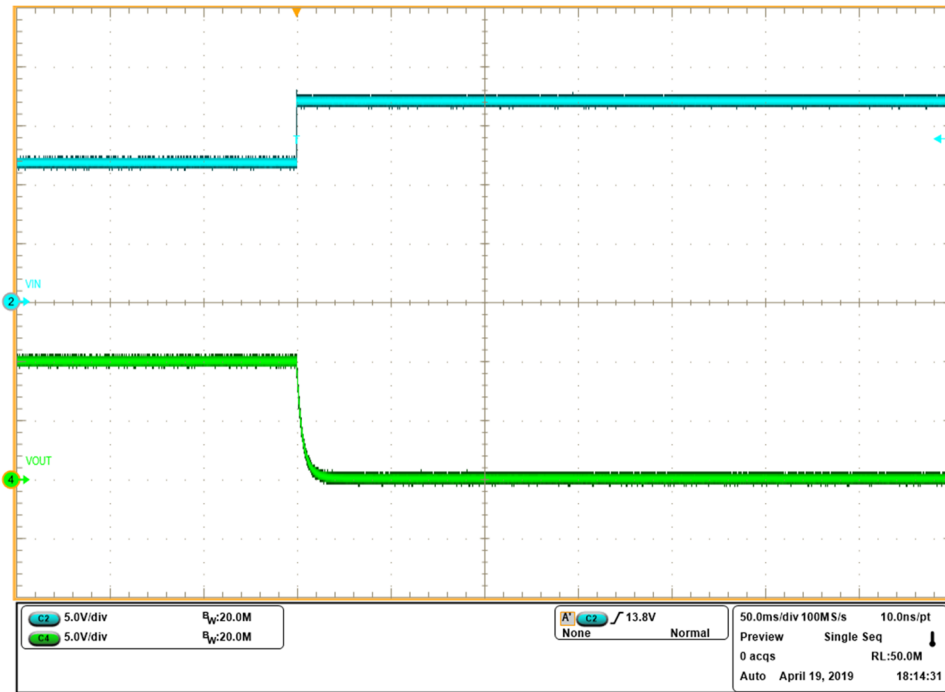

Figure 6. J12 = 1-2, Overvoltage Test (CH2)
- Adjust the VIN2 power supply voltage to a value less than output lockout limit and turn it ON. Increase the VIN2 power supply voltage to a value above the lockout threshold. Verify the device turns OFF when VIN2 is increased beyond overvoltage lockout threshold (based on the respective jumper setting) and that the FLTb2 RED LED (D5) turns ON. Figure 6 shows overvoltage test for jumper setting, J12 = 1-2.